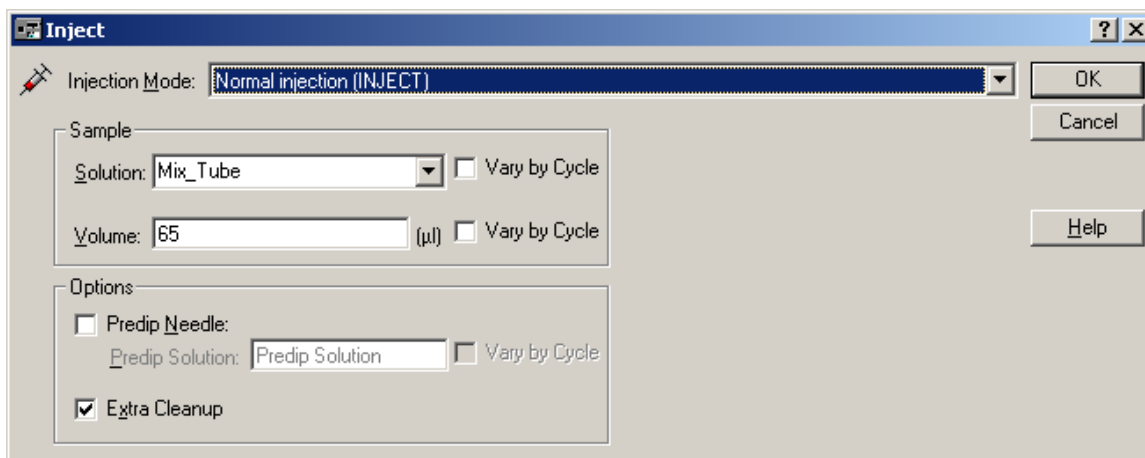

Figure 2.10
- 2.13.2 Inject window (Fig. 2.10) will open
- 2.13.3 Type in the information as shown in the Inject window (Fig 2.10)